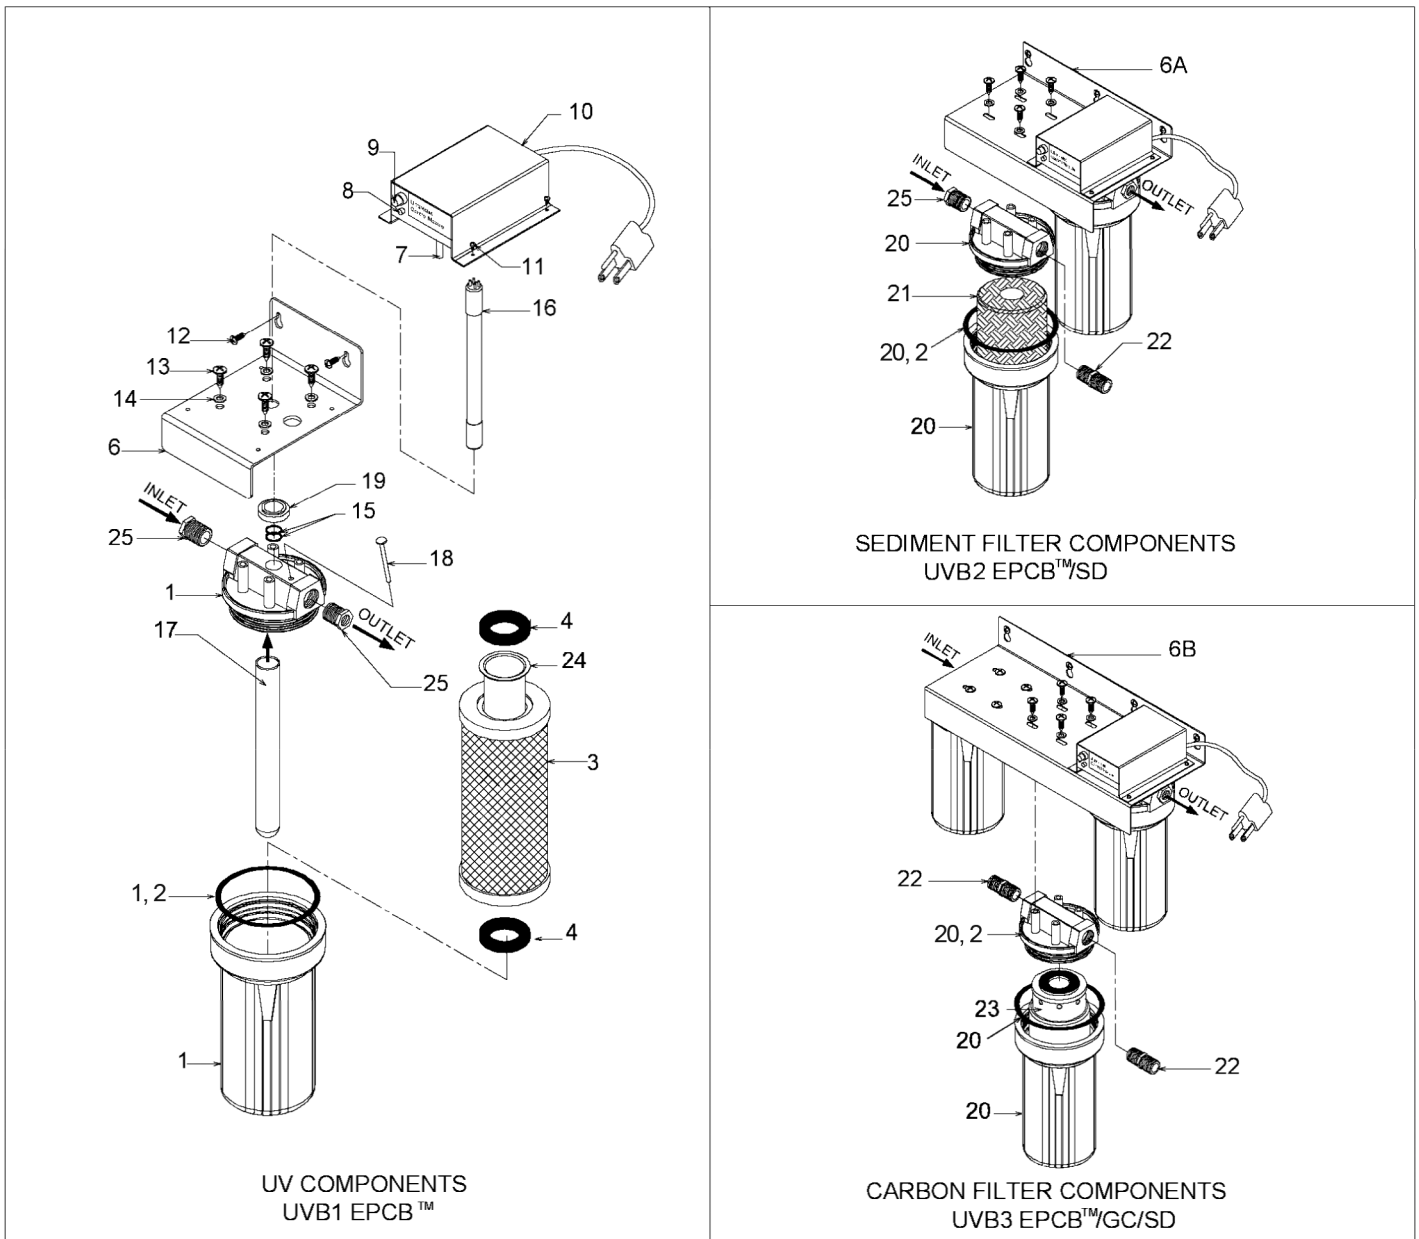

Figure 1 Exploded Schematic, UV UVB Series
NOTE: All Items refer to Figure 1.
2. Install EPCB™ Sleeve (Item 24) into EPCB™ Carbon Filter (Item 3) as shown in Figure 1.
3. Insert filter/sleeve assembly into sump as shown in Figure 1 with both Filter Gaskets (Item 4) in place.
5. **For UVB2 & UVB3 Models only:** Remove Sump (Item 1) from Filter Head (Item 20). Install Filters (Items 21 and 23) as shown in Figure 1. Install sump onto filter head.
CAUTION: Verify that inlet and outlet ports are connected to appropriate inlet/outlet pipes (see Figure 1).
4. **For UV20-2 & UV20-3 Models only:** Remove Sump (Item 1) from Filter Head (Item 20). Install Filters (Items 21 and 23) as shown in Figure 1. Install sump onto filter head.